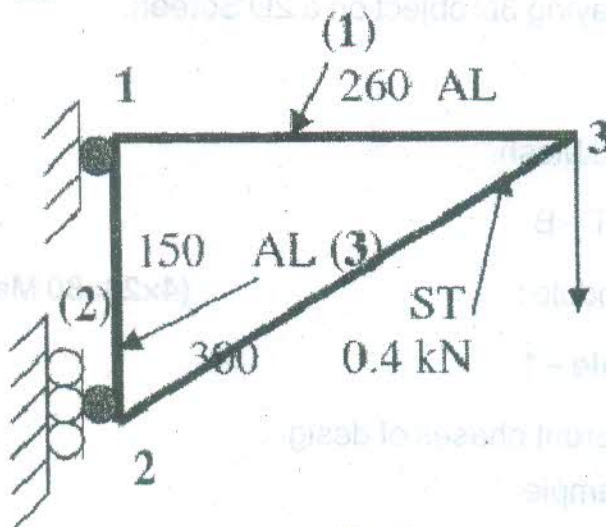

Fig. 1
- 18. For the truss shown in figure 1, Determine i) The displacement of joints 2 and 3